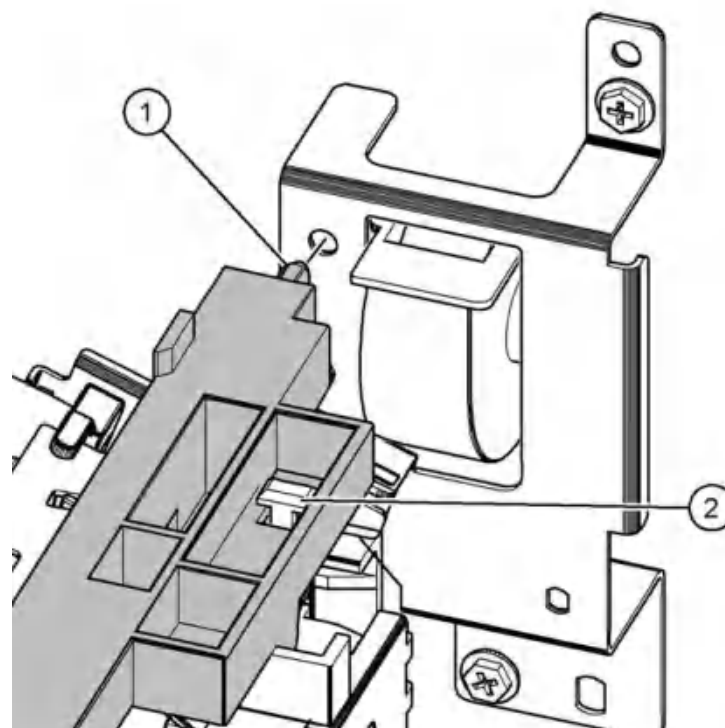

Figure 7 Boss
3. When installing the CRU upper guide assembly, Figure 7.
- a. Align the boss (1) with the hole.
- b. Align the slot (2) in the CRU upper guide assembly with the T- shaped alignment post of the conductor housing and push forward to ensure correct contact between the AC spring coil and the metal contact of the CRU upper guide assembly.